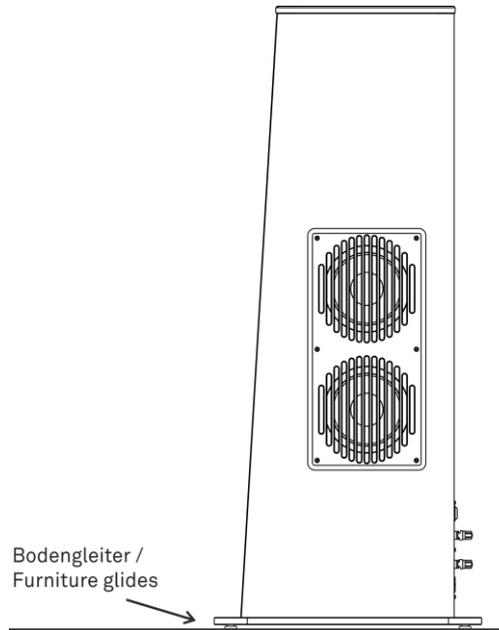

Fig. 3
- First set up the speakers at their intended location. To determine the correct distances (walls, listening position, etc.) and placement angle to the listening position, the **CWT 1000-40** can be easily moved and aligned with the pre-assembled furniture glides (Fig.3).